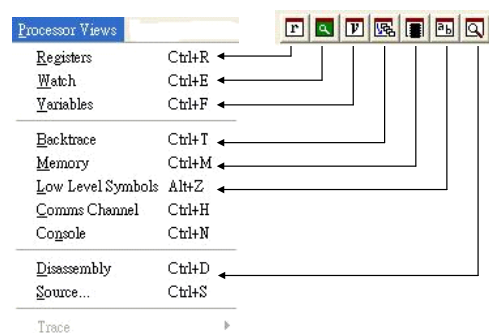

Figure 7. Processor View Menu and its corresponding Toolbar.
7. Select **Variables** from the **Processor Views menu** (Figure 7) to check progress. Reposition or resize the window if necessary.
5. Select **Watch** from the **Processor Views menu** (Figure 7) and reposition or resize the window if necessary. You can specify items to watch on several tabbed pages. In this example you examine a few variables using the first tabbed page only.
3. Select **Registers** from the **Processor Views menu** (Figure 7) and reposition or resize the window if necessary.